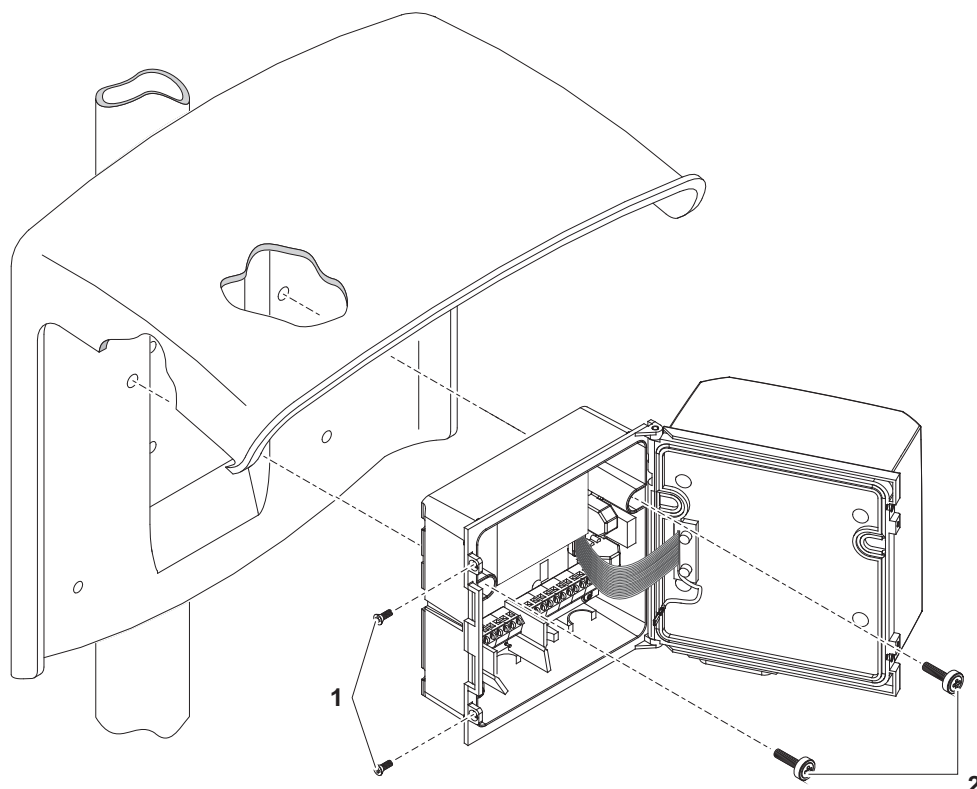

figure 3-20 Mounting the DIQ/S 281 on the sun shield SSH/IQ
- 4 Position the universal transmitter on the sun shield and fix it into place with the two screws (pos. 2 in figure 3-20).
- 5 Close the lid and fix it with the two countersunk screws (pos. 1 in figure 3-20).